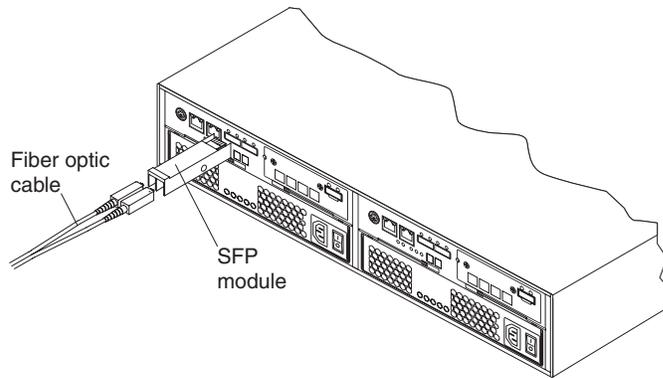

Figure 21. Installing an SFP module into the host port
4. Insert the SFP module into the host port until it clicks into place. See Figure 21 on page 30.